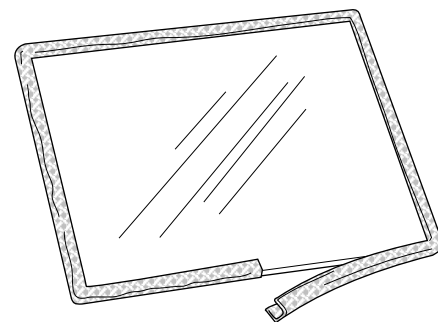

Figure 28. Glass gasket replacement.
4. Apply the gasket to the panel, wrapping the adhesive side down around the panel edge. See fig. 28.